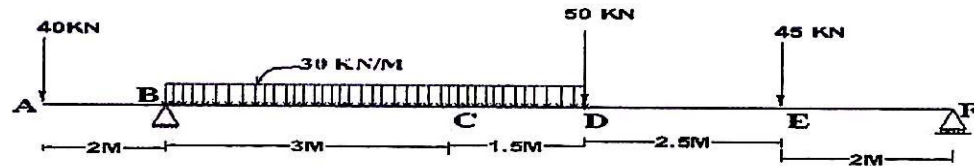

Fig. 7
6. (a) Construct S.F. and B.M. diagram for the beam. Find the point of contraflexure. (Refer Fig. 7). [7]